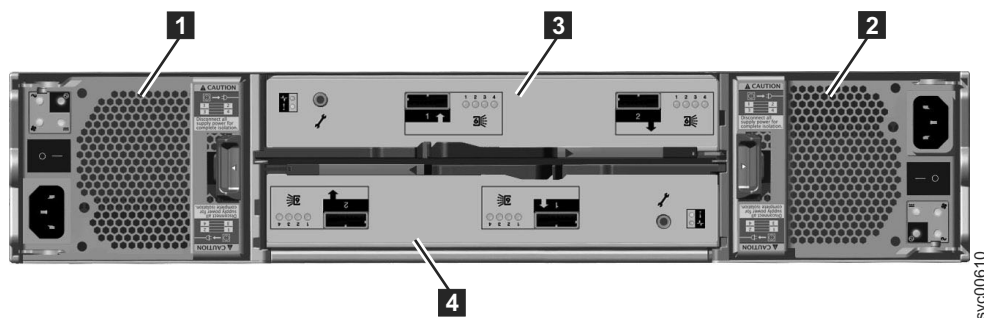

Figure 6. Rear view of a model 2076-212 or a model 2076-224 expansion enclosure
Figure 6 shows the rear view of an expansion enclosure and identifies the location of the power supply units and the canisters. The ports and their use are described later in this section.
- Two canisters are housed in the middle of the enclosure. Each canister is known as an expansion canister. The upper canister, as shown in Figure 6, is canister **3**, and the lower canister is canister **4**. Canister 3 is top side up, and canister 4 is inverted, or top side down.